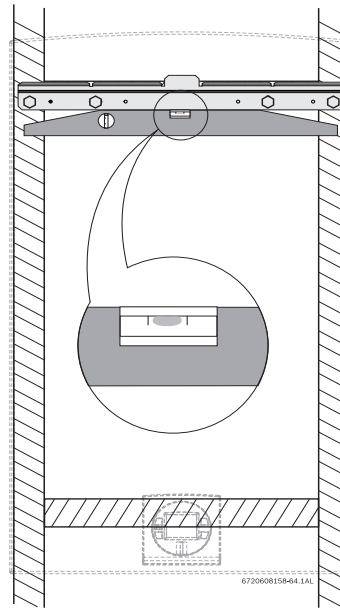

Fig. 23 Leveling the mounting bracket on the studs
- ▶ Secure the wall mounting bracket provided with the heater to the wall surface. The heater must be kept level on the wall surface (see Fig. 23).